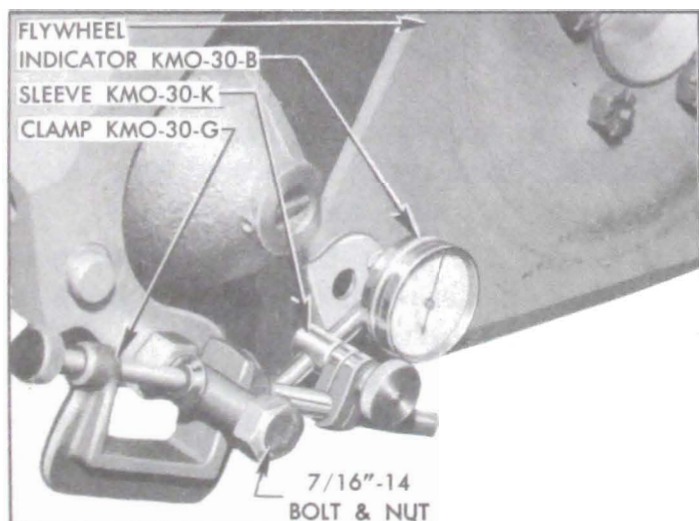

Figure 2-42—Checking Run-Out of Dynaflow Flywheel
4. Mount Dial Indicator KMO-30-B with Sleeve KMO-30-K and clamp KMO-30-G as shown in figure 2-42, so that stem of indicator bears against the flat surface of flywheel at inner side of the bolt holes.